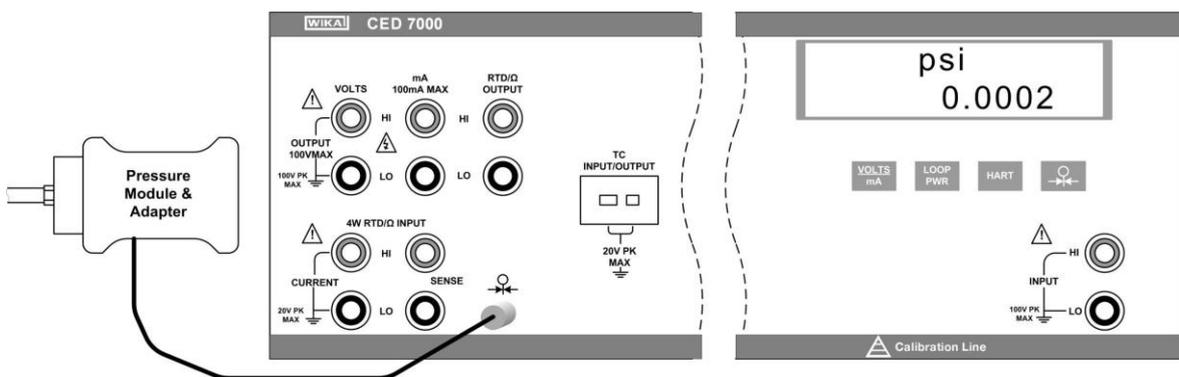

Figure 19 - Isolated Pressure Module Connection
- a) Connect the pressure module to the CED 7000 as shown in figure 19.